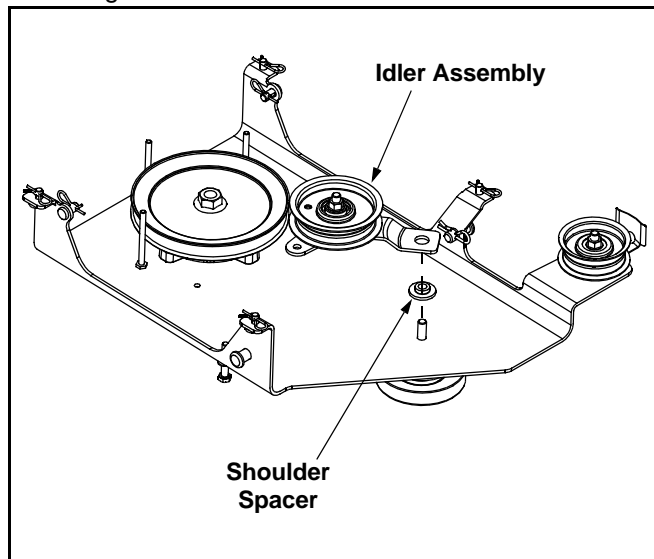

Figure 4
- Position the shoulder spacer and idler assembly (packaged separately) over the hex screw on the surface of the undercarriage. See Figure 4.